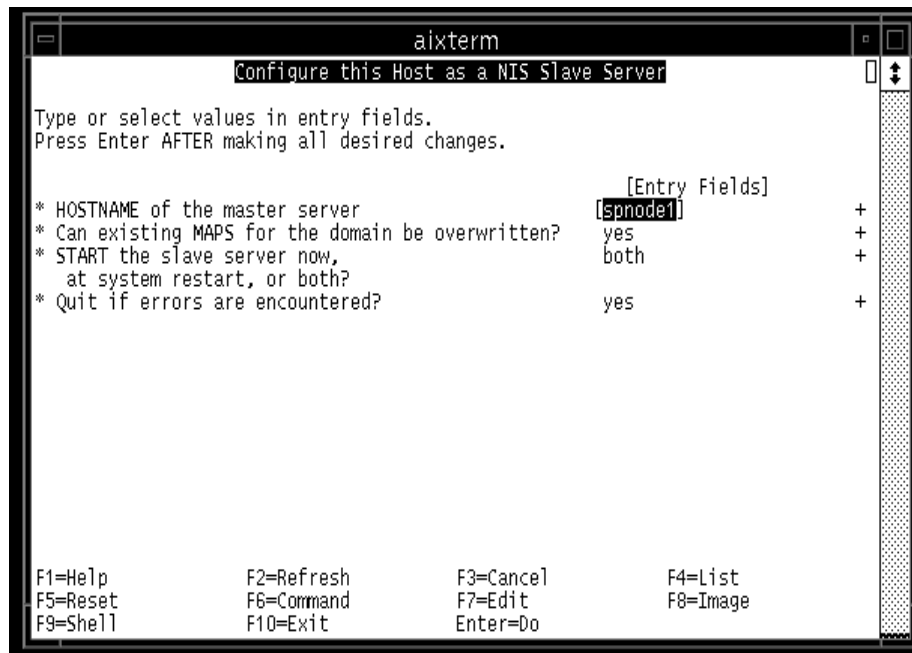

Figure 46. SMIT panel for configuring a slave server
- On the machines set aside to be slave servers, go to the NIS SMIT panels and select **Configure this Host as a NIS Slave Server**. Figure 46 on page 84 shows the SMIT panel for configuring a slave server. This step starts the ypserv and ypbind daemons on the slave servers and updates the NIS entries in the local /etc/rc.nfs file(s).